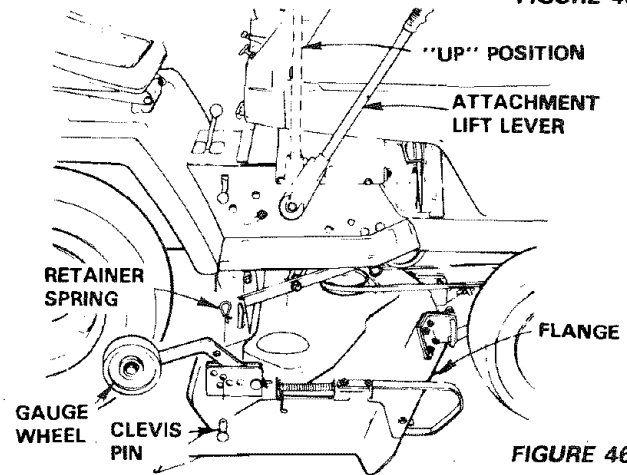

FIGURE 46
- Move attachment lift lever to full "UP" position (Fig. 46).
- With mower deck at desired height, set gauge wheels (Fig. 46) to lowest position without touching the ground.
- Use clevis pin (Fig. 46) to set gauge wheels at lowest point without touching the ground.